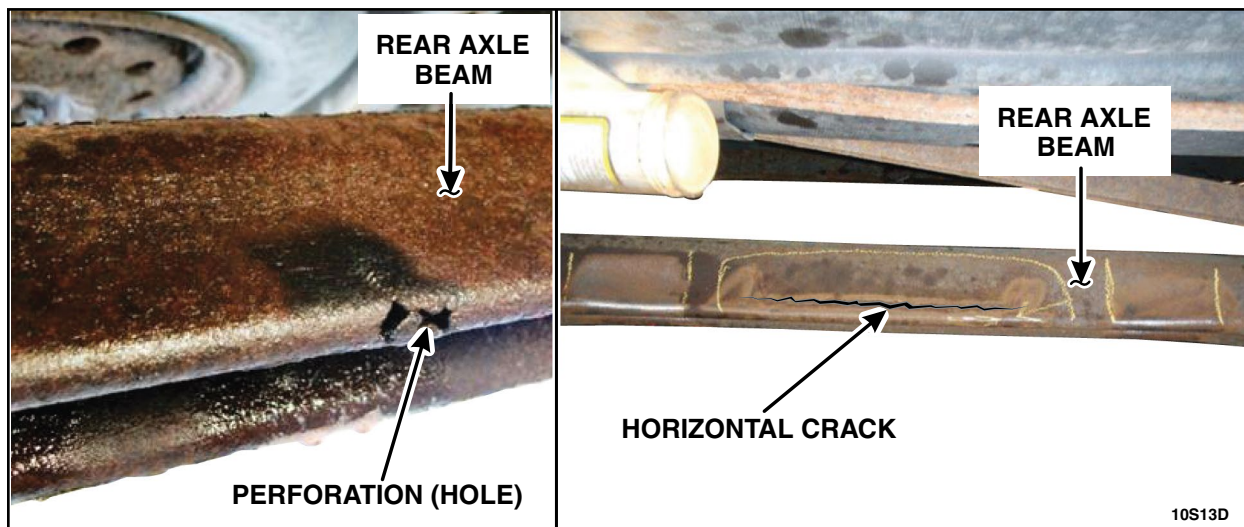

FIGURE 3
1. Visually inspect the entire rear axle beam for perforations (holes) or cracks. See Figure 3.